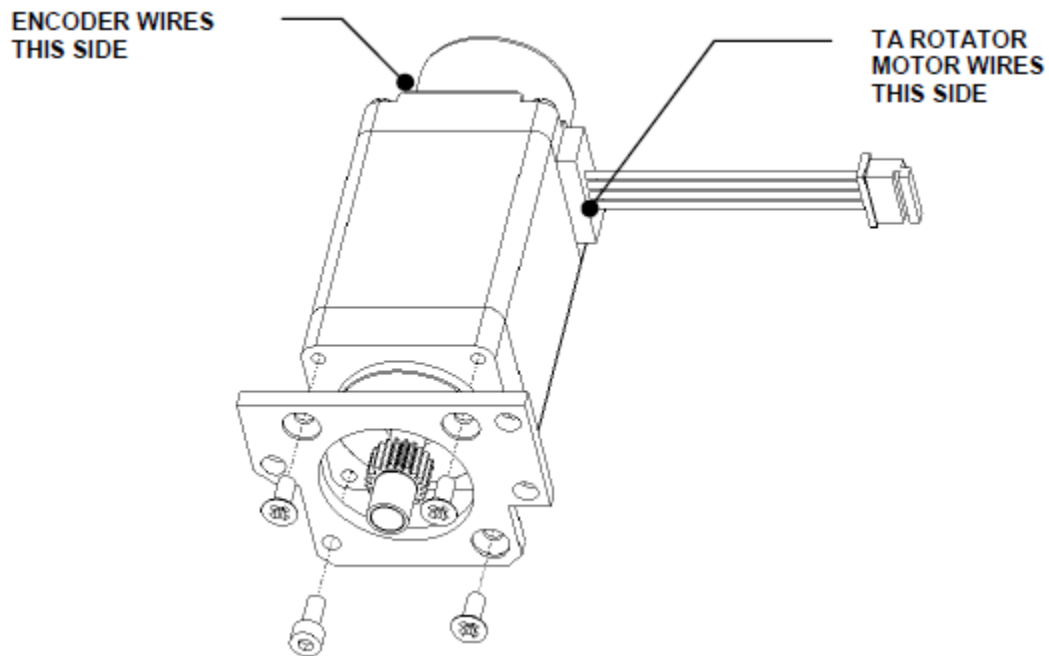

Figure R-6: Removing the Motor Plate
2. Remove the Motor plate by removing the three M2.5 x 6 Posi Flat Head screws (Figure R-6).